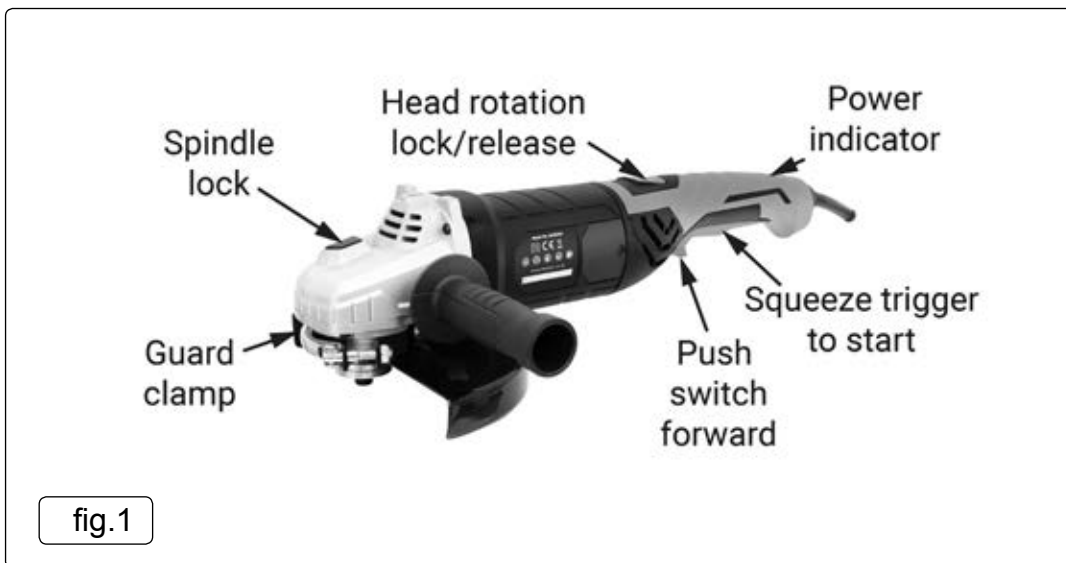

fig.1
- 4.2.6. Stop the spindle from turning by pushing in and holding down the spindle lock button (fig.1).
5.2. ON/OFF CONTROL (fig.1)
5.2.2. Once plugged into the power supply start the grinder by pushing the switch (fig.1) forward and simultaneously squeezing the trigger.
- 5.3.1. To rotate the grinding head to any orthogonal position (0°, 90°, 180°, 270°) depress the locking switch (fig.1) and twist the head to the required position. Ensure it is fully engaged in place before turning the power on.